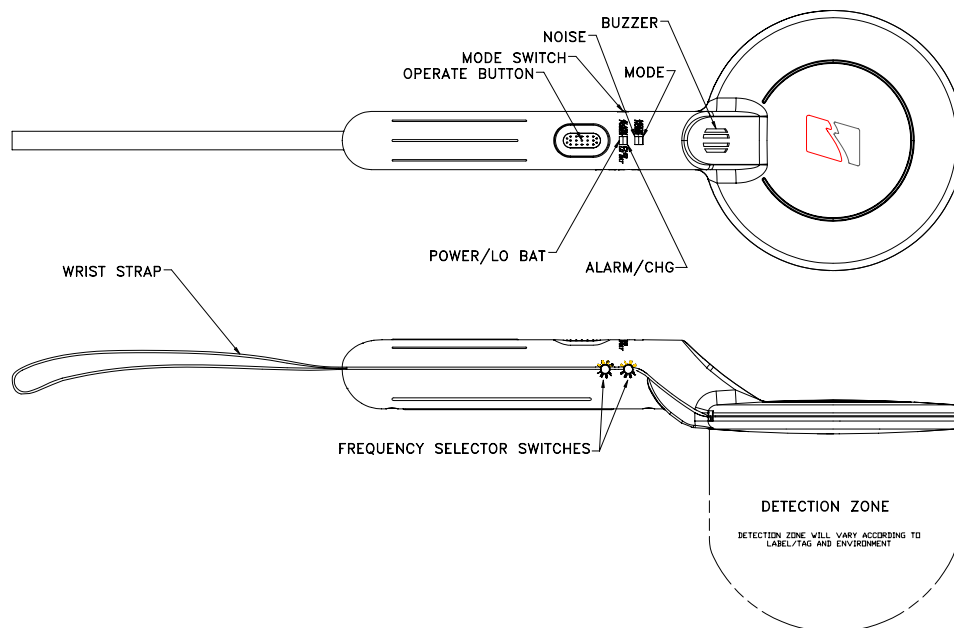

FIGURE 4
Controls (refer to Figure 4)
Indicators (refer to Figure 4)
- Place the deactivation key card directly under the Omni antenna (see Figure 4), then depress and hold the red operate button. All indicators, except the green PWR/LO BAT of the Omni indicators should blink in sequence at a constant rate, indicating Portable Deactivator operation. As long as the red power button remains depressed by the operator, the Omni will deactivate tags. Once the button is released, the Omni will return to PV mode.
Detection Range	PV mode: 3" - 5" (7 - 12 cm) Depending on label size and environment. See Figure 4 for approximate detection area.